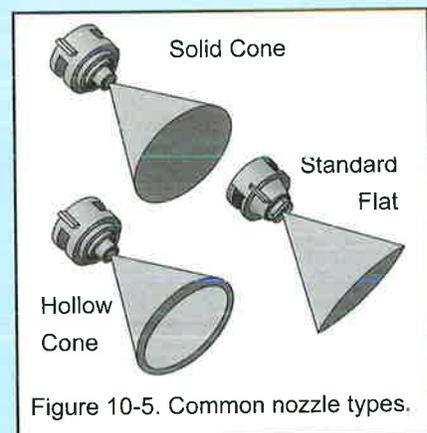

Figure 10-5. Common nozzle types.
**Spray Pattern**—Nozzle tips are classified according to the spray pattern they produce. Cone and flat fan shapes are most often used for applying pesticides to ornamentals and turf (see Figure 10-5). Solid stream nozzles are used in handgun sprayers to spray a distant target such as tree pests. Most hand-operated